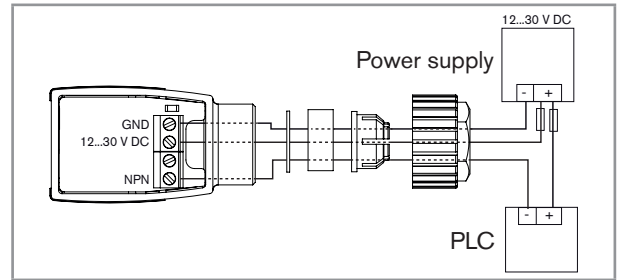
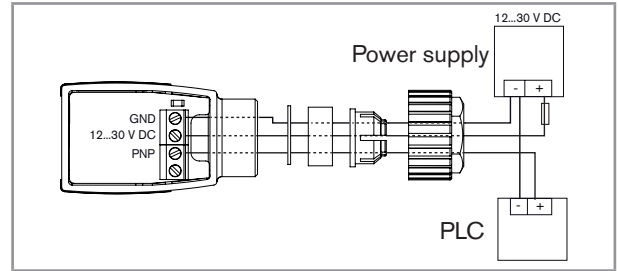

Fig. 3: Device with cable gland – NPN connection of the transistor output
Fig. 4: Device with cable gland – PNP connection of the transistor output
- Connect the transistor output. The transistor output can be connected in the following modes: NPN or PNP. Refer to Fig. 3 or Fig. 4.